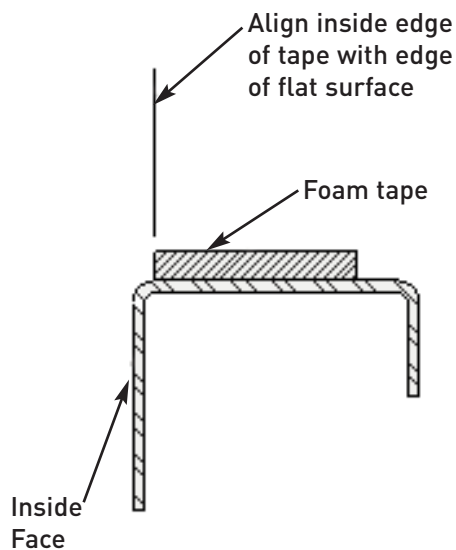
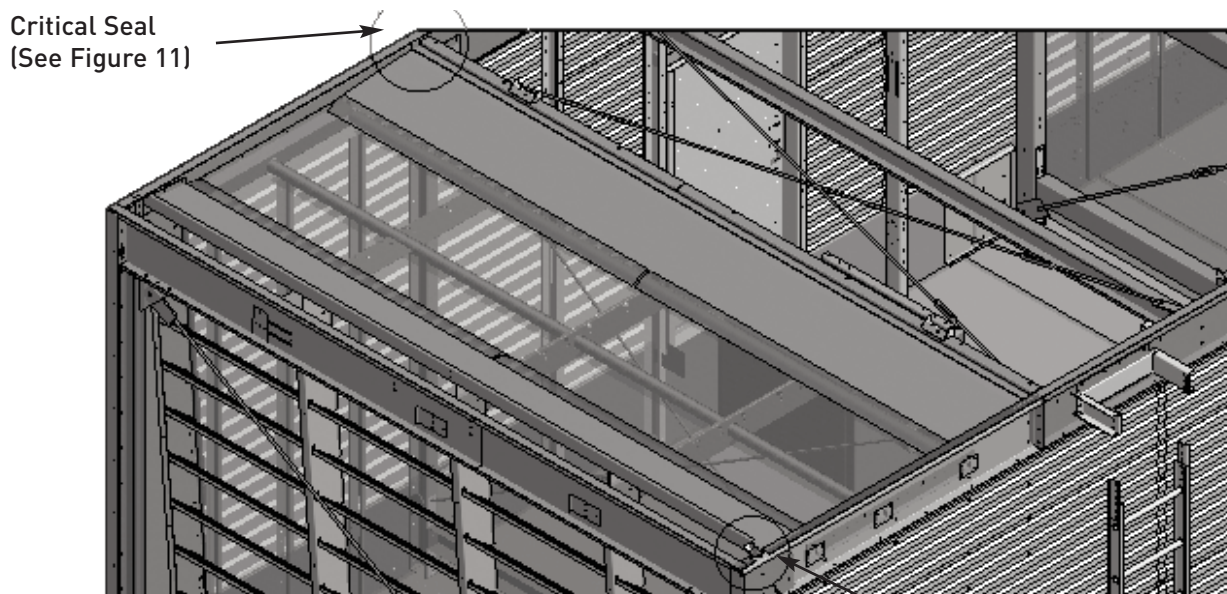
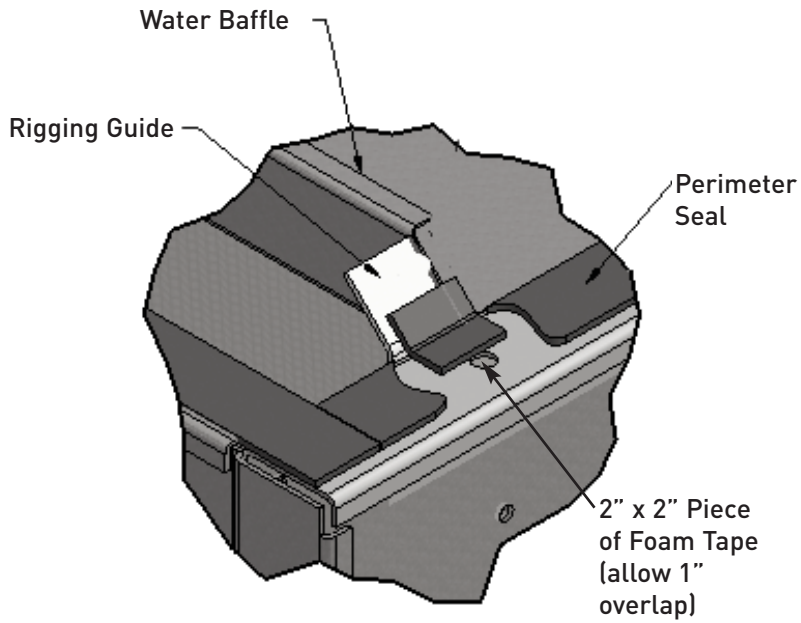

Figure 7
Figure 9 Lower Section Detail
Figure 10: Perimeter Seal Detail
- Apply foam seal tape (BAC part number – 270175P) at each corner and across the plenum step as shown in Figure 9. See Figures 10 & 11 for critical sealing areas. Allow 1" overlap of tape at these locations.
- Apply foam tape around the entire perimeter of the lower section. Align the tape on the perimeter flange as shown in Figure 7. See Figures 10 & 11 for critical sealing areas. Allow 1" overlap of tape at these locations.
Critical Seal (See Figure 10)